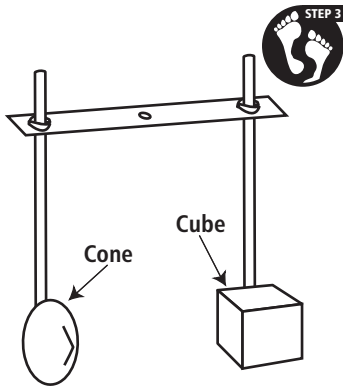

Figure 7: Drag Arm
2. Use the shapes (p. 13-14), beginning with the cone and the cube. Use transparent tape to attach one shape to the bottom of each straw. Position shapes as shown in figure 7.